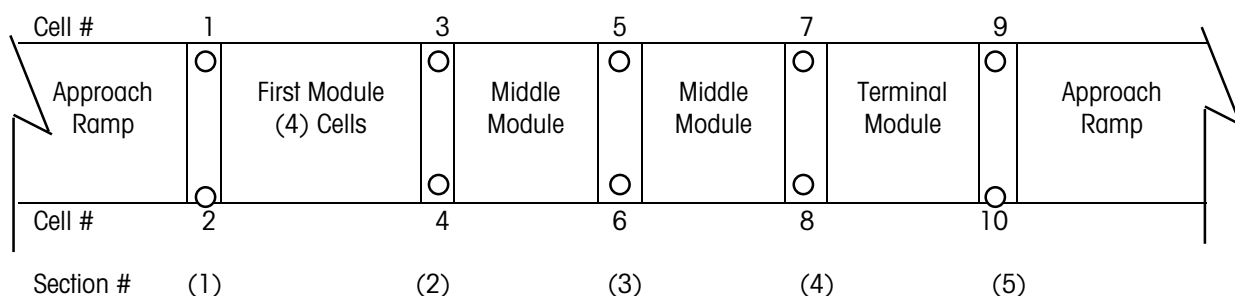

Figure 9-1: Recommended Load Cell Numbering
2. Access the setup mode of the indicator and observe the raw counts displayed for each load cell in the scale. Refer to the 10-cell layout in Figure 9-1 for the recommended load cell numbering scheme. Note that load cells 1 and 2 make up Section 1, cells 3 and 4 make up Section 2, and so on. Make sure that you know the proper location of each cell in your scale and that cells 1, 2, 3, and 4 are supporting the first or starting module of the scale.